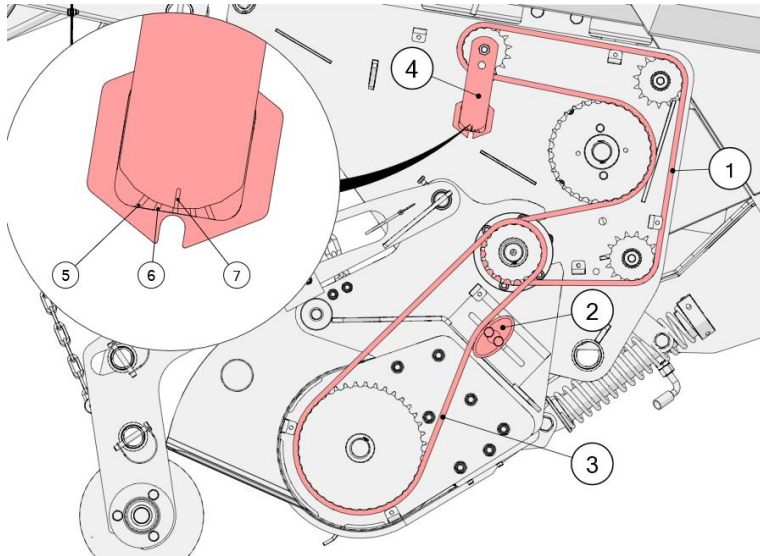

Figure 54. Tightening the chain of the pick-up
- To tension the chain of the pick-up (3), loosen the bolts in the tensioner (2) and slide it upwards so that the chain is tightened (Fig. 54);
- The driving chain (1) is tensioned via an automatic tensioner (4). Read the value on the indicator (7), as shown in Figure 54. The indicator should show a value between the bars marked as 5 and 6. If the indicator is outside this range, do the following: